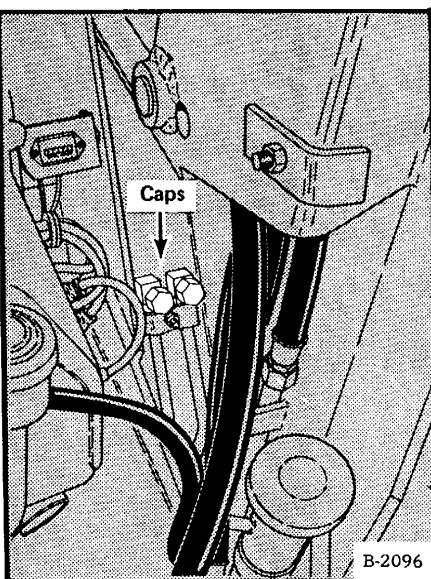
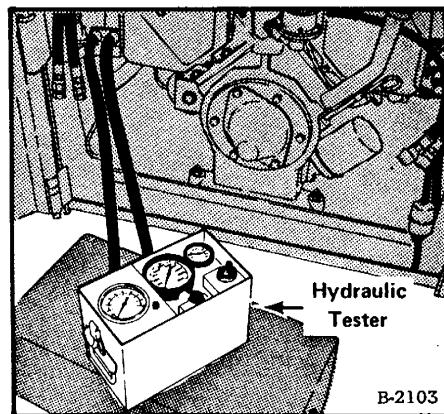

Fig. 2-10 Caps On Fittings
Fig. 2-11 Checking Hydraulic System
(2) Open the grill. Disconnect the two hoses on each side, which go to the lift cylinders. Put covers on the hoses to keep dirt out of the system.
(3) On one side, put caps on the tube openings (Fig. 2-10). On the other side, connect the hydraulic tester (Fig. 2-11). Turn the control knob on the tester fully counterclockwise.
(4) Start the engine and run at full throttle. Push the heel of the left pedal down. If there is no reading on the flow gauge, push the toe of the pedal.
(5) Turn the control knob on the tester fully clockwise. The release pressure must be within the specification (See Section 8).